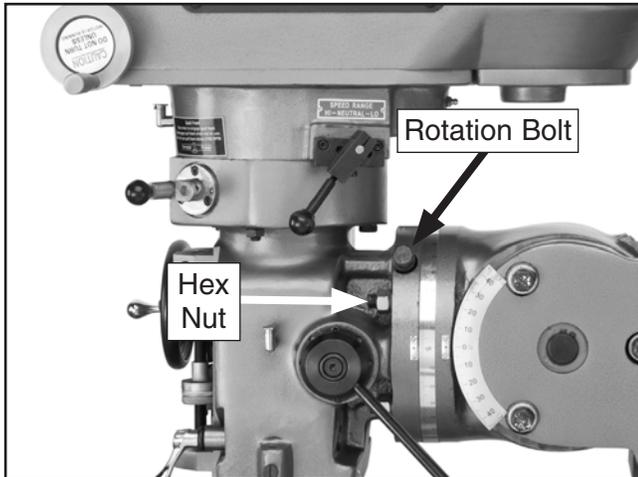

Figure 34. Head rotation controls.
2. Loosen the four hex nuts behind head plate (see **Figure 34**).